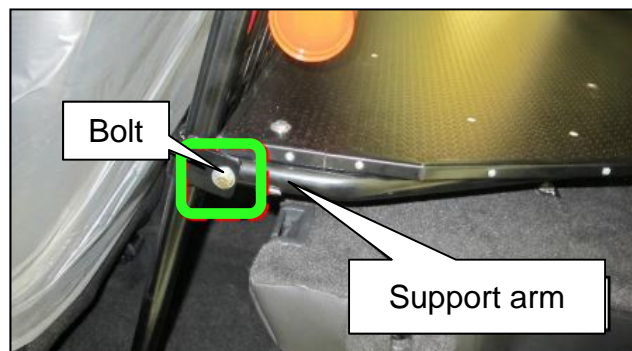
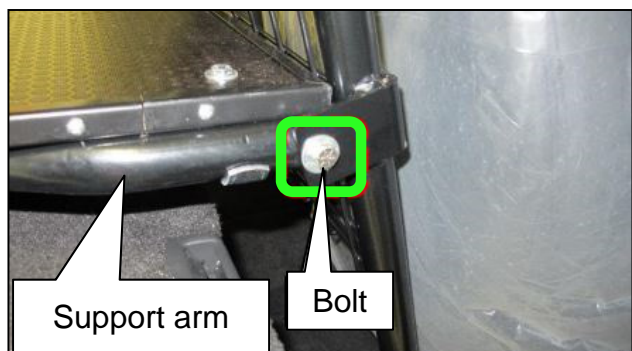

Figure 21
Figure 22
16. Install the support arm to partition mount bolts/washers and nuts on both sides (Figure 21 and Figure 22).